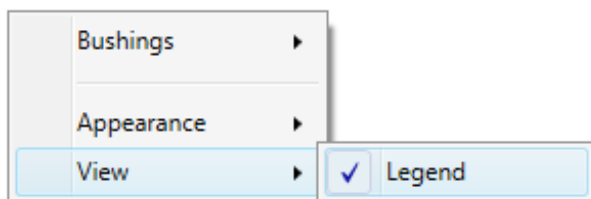

Figure 4-68: View shortcut menu
- The View option toggles the Legend On or Off as shown in Figure 4-68.